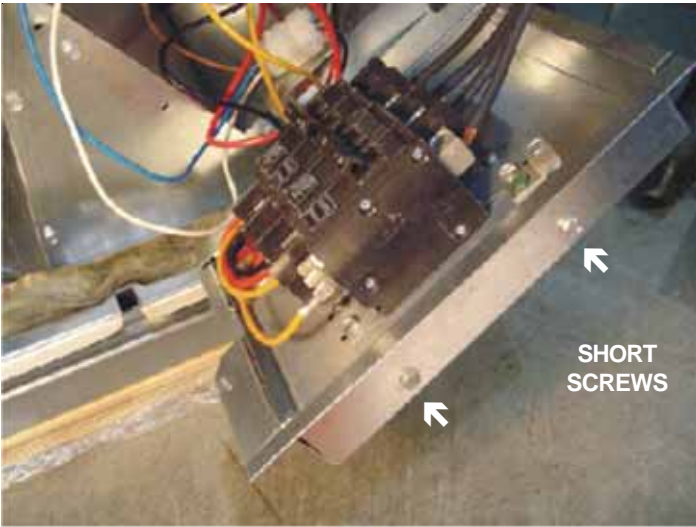

Figure 4
8. **For single phase HKR kits only**, mount the breaker (or terminal block) to the rear mounting plate using the 4 blunt tip screws included in the unit literature bag. The screw heads should all be located on the outside of the mounting plate as shown in Figure 4.